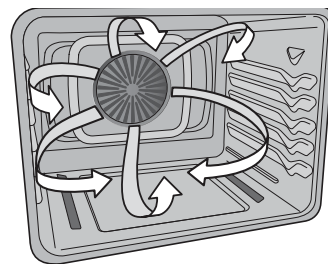

Figure 17: Air circulation in the convection function
- The convection function uses a fan to circulate the oven's heat uniformly and continuously around the oven (Figure 17). This improved heat distribution allows for fast, even cooking and browning results.